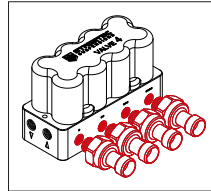

Fig. 2: Valve block
1. Mounting directly into the valve block (Fig. 2)